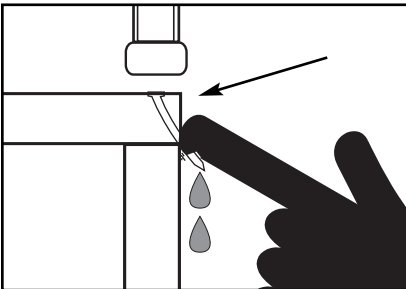

Figure 3. Example of nail deflection.
3. Before pressing the trigger, make sure your free hand is positioned out of the way of a potential path of a nail in case of deflection. (Deflection is caused when the nail changes its path, resulting in the nail puncturing the surface of the workpiece as shown in **Figure 3**.) Deflection can cause injury if your free hand is securing the workpiece in the location that the nail deflects and damage your workpiece.